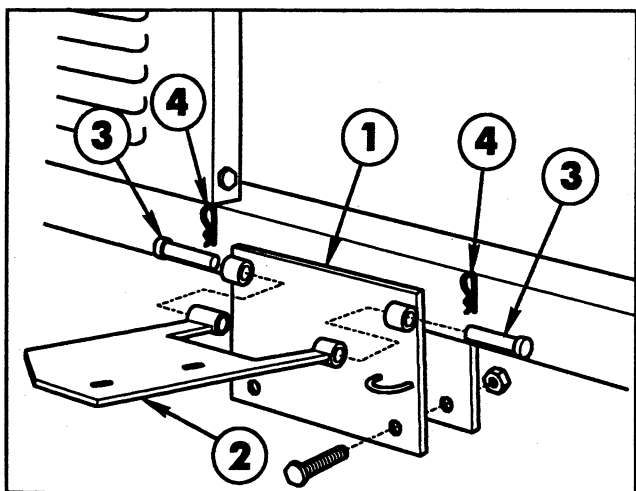

FIG. 4
1. Mount the Pivot Mounting Plate to the angle on the bottom of the Vehicle Frame, using two 1/2" x 1-1/4" cap screws and lock nuts. See FIG. 4.